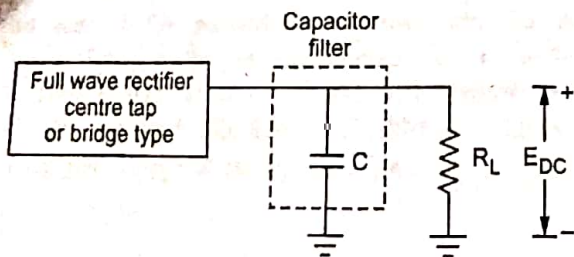

Fig. Q.26.1 Capacitor filter with full wave rectifier
• The Fig. Q.26.1 show the capacitor input filter with full wave rectifier.